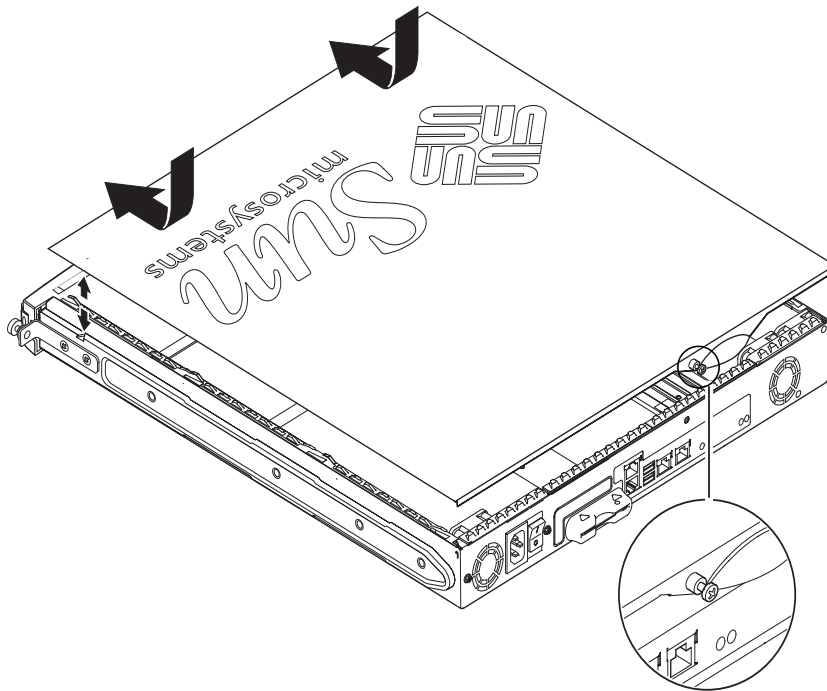

FIGURE 8-4 Replacing the Top Cover
6. **Replace the system cover and tighten the captive screw (see FIGURE 8-4).**